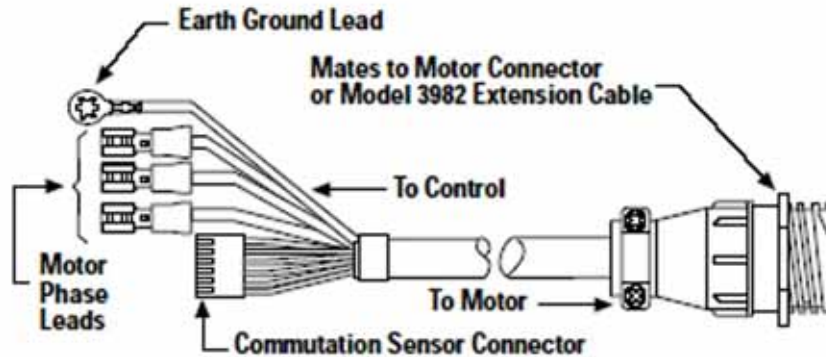
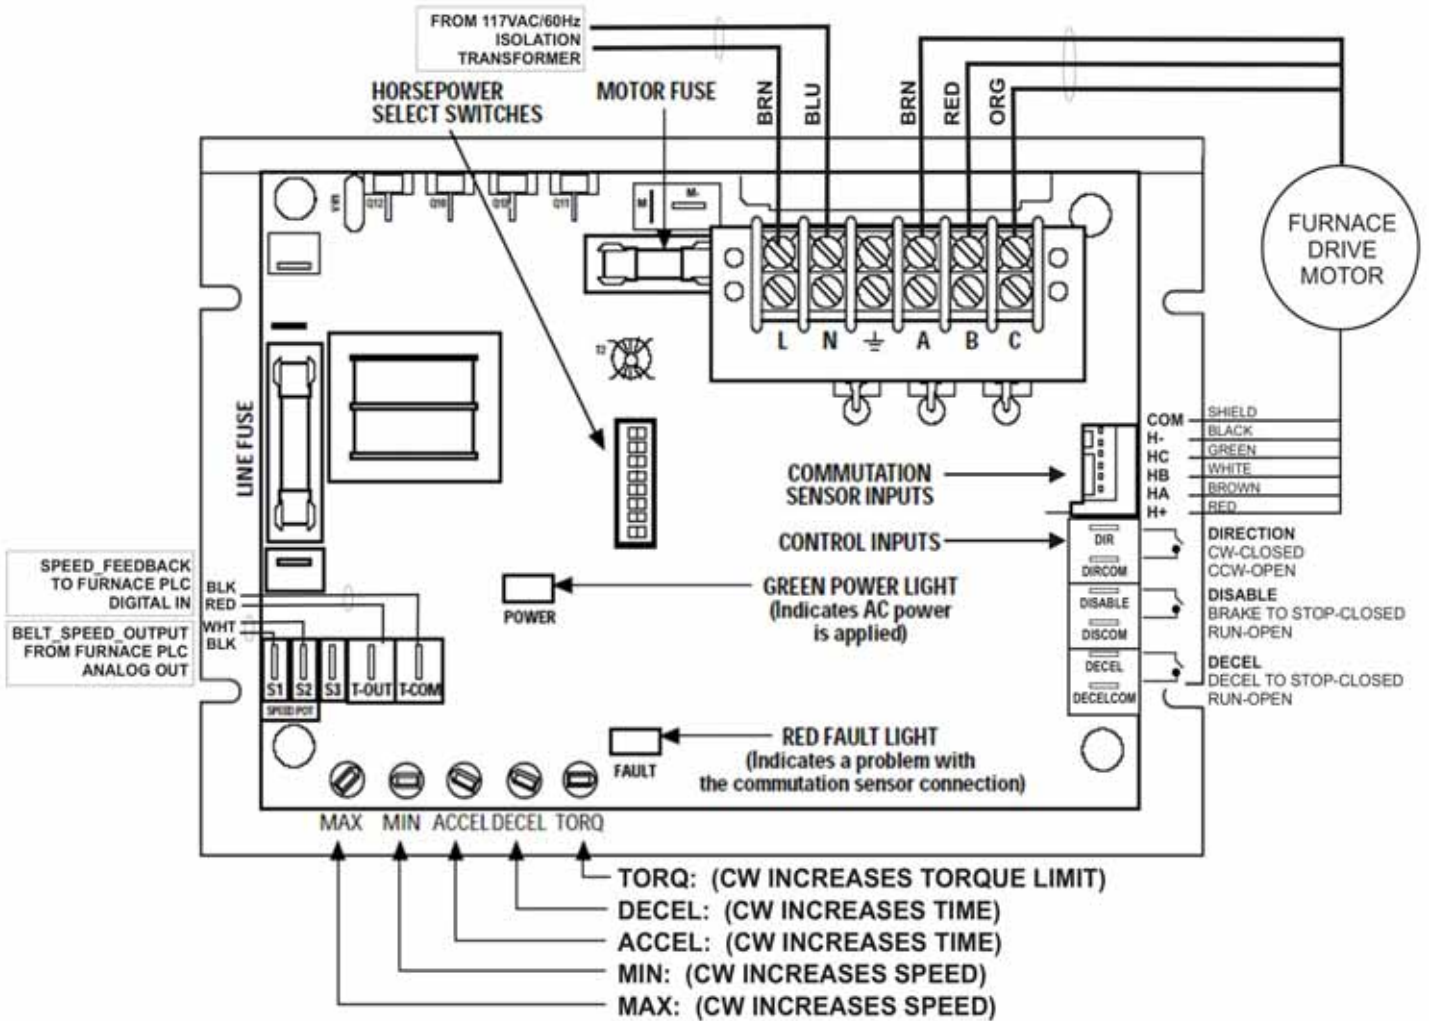

Figure 3 - Model 3983 Cable Assembly
Figure 4 - Control Circuit Board Detail
Cable Assembly: The Model 3983 Cable Assembly, shown in Figure 3, is designed to simplify the electrical connections to the ABL-3911C Control. One end of the cable which connects to the motor is terminated with a circular type connector. The other end which connects to the control has a six-pin rectangular connector, three individual motor phase leads with quick disconnects, and an earth ground lead. This cable assembly must be modified for installation on furnace drive applications (see Page 5).
Horsepower (DIP Switch) Settings: Figure 4 shows a Horsepower Select switch on the main control board which contains eight switch levers numbered 1 through 8. The chart in Table 1 shows the proper DIP switch settings for various Bodine furnace drive motor types.
Commutation Sensor Connections: The commutation sensor leads are prewired in the Model 3983 cable assembly and terminated in a six-pin connector (Figure 3). There is a corresponding "Commutation" connector on the main control board (Figure 4). Mate the polarized cable connector to the "Commutation" connector. The connectors can only mate one way.
Motor Phase Connections: If installing a new cable, locate the barrier terminal block mounted to the bracket above the main control board and make the following modifications. Refer to Figure 4:
Line Fuse: The location of line fuse (F1) is shown in Figure 4. It should always be replaced with a fuse of the same type and rating. Its rating can be determined by referring to the chart in Table 1.
Motor Fuse: The location of motor fuse (F2) is shown in Figure 4. The fuse rating will vary with the size of the motor used. To determine the proper fuse rating, locate the first four digits of your motor's type number on the motor nameplate. Find the same four digits in the chart in Table 1 to determine the fuse size. The ABL-3911C and ABL-3921C are supplied with the fuses listed in Table 1.
Power Input: Refer to Figure 4. Locate the barrier terminal block mounted to the bracket above the main control board and connect AC power to the barrier terminal block as follows:
5. If the motor does not operate, first observe if the green POWER light and red FAULT light are on (refer to Figure 4 for location). Then disconnect the AC power to the control and check all connections and fuses. If a fuse is blown and the motor is not locked (stalled) or overloaded, do not replace the fuse.
Refer to Figure 4 for the trim potentiometer locations and approximate initial settings. If you need to readjust the control for your specific applications, proceed as follows:
The lowest MAX trim potentiometer setting (fully counterclockwise) corresponds to 60% of rated speed and the highest MAX trim potentiometer setting (fully clockwise) corresponds to approximately 120% of rated speed. Refer to Figure 4 for trim potentiometer location and settings. Adjustment of the MIN and MAX trim potentiometers may have to be repeated several times to arrive at the desired speeds.
Torque (Current) Limiting Adjustment: The TORQ trim potentiometer (Figure 4) has been calibrated to limit current to 200 to 250% of the motor's rated current, assuming the DIP switches are set properly. The motor's torque output can be reduced to zero or stall torque. Turn the TORQ trim potentiometer counterclockwise to decrease the torque and clockwise to increase the torque.
Acceleration Adjustment : Adjusting the ACCEL trim potentiometer (See Figure 4) counterclockwise decreases the motor's acceleration time down to a minimum of approximately 0.2 seconds. A clockwise adjustment increases the rate up to a maximum of approximately 10 seconds.
Deceleration Adjustment: Adjusting the DECEL trim potentiometer (See Figure 4) counterclockwise decreases the motor's deceleration time down to a minimum of approximately 0.2 seconds. A clockwise adjustment increases the rate up to a maximum of approximately 10 seconds.